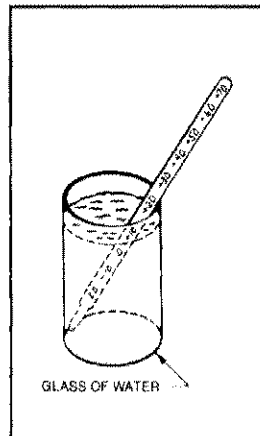

FIGURE 28
**REFRIGERATOR:** Place the thermometer in a glass of water and place the glass in the middle of the refrigerator section. See Figure 28. Be sure air can flow around it. Wait 3 to 4 hours, check the temperature and adjust the control as needed one number at a time to achieve the 38° to 40°F range. Wait 3 to 4 hours and check the temperature again.